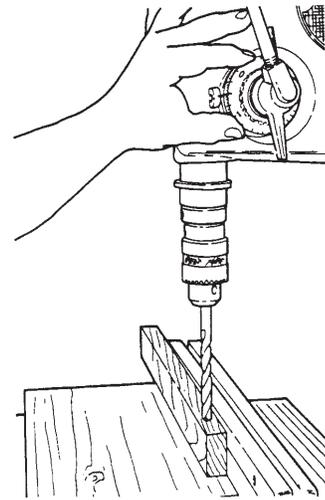

Figure D-26
- Same as "Drilling Through" except extend the quill until the cutting flutes of the drill bit just touch the stock. Then set and lock the depth control. See Figure D-26.